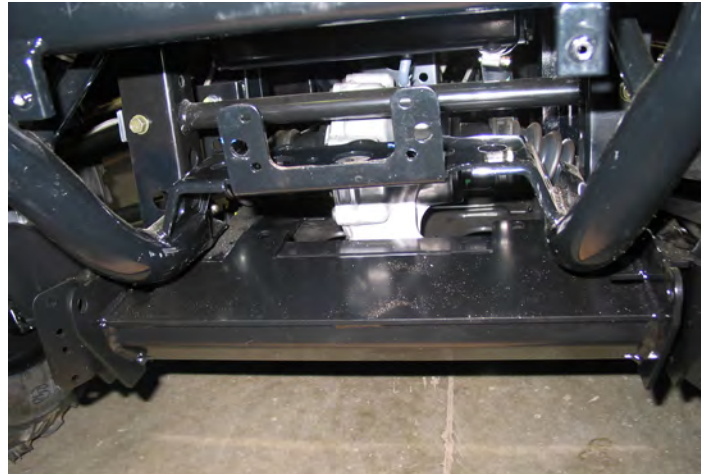

Figure 7
4. You will come back to the support plate later in these instructions. Take the front plow mount and slide it over the front cross piece portion of the frame under the winch mount. You will have to pull the front portion of the bottom skid plate down to keep from having interference. Shown in Figure 7.